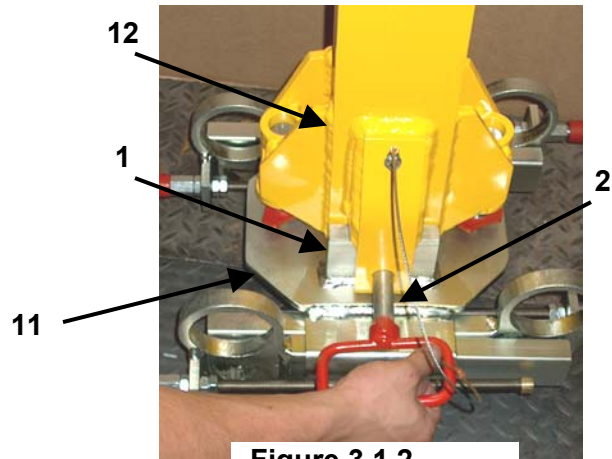

Figure 3.1.2
Step 3: As shown in Fig. 3.1.2, insert the 14' Portable Fall Arrest Post (12) between the base plates tabs (1) and visually align the $\frac{3}{4}$ " holes as shown in Fig. 3.1.2. Secure the Post by inserting the $\frac{3}{4}$ " pin (2) through the base plate tabs (1) and sleeve (12). Make sure the pin fully engages both the base plate tabs (1) and the entire post to lock the post firmly in place.